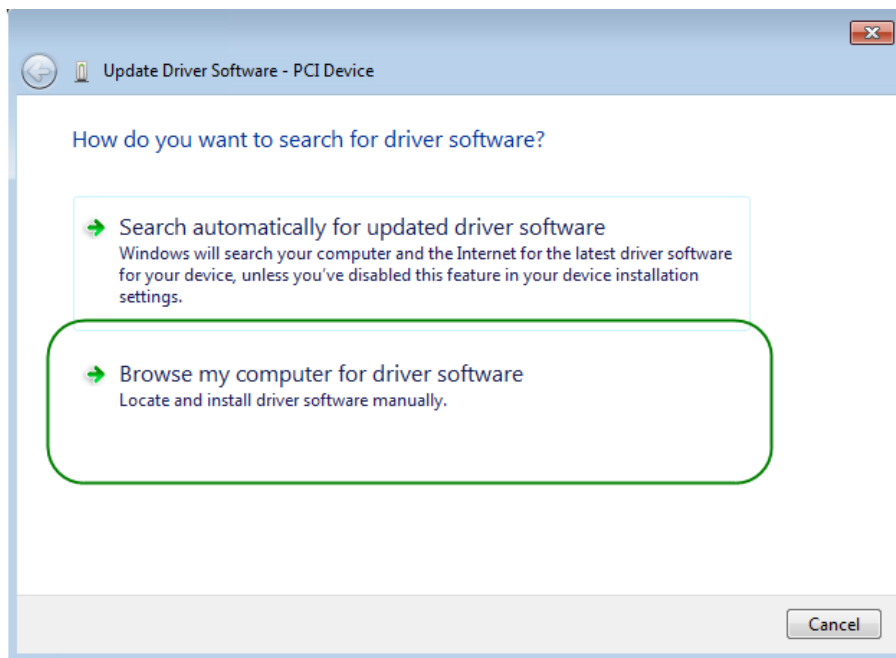

Figure 5-4 Dialog of Browse my computer for the driver software
6. In the **How do you want to search for the driver software** dialog, click **Browse my computer for driver software** item, as shown in Figure 5-4.